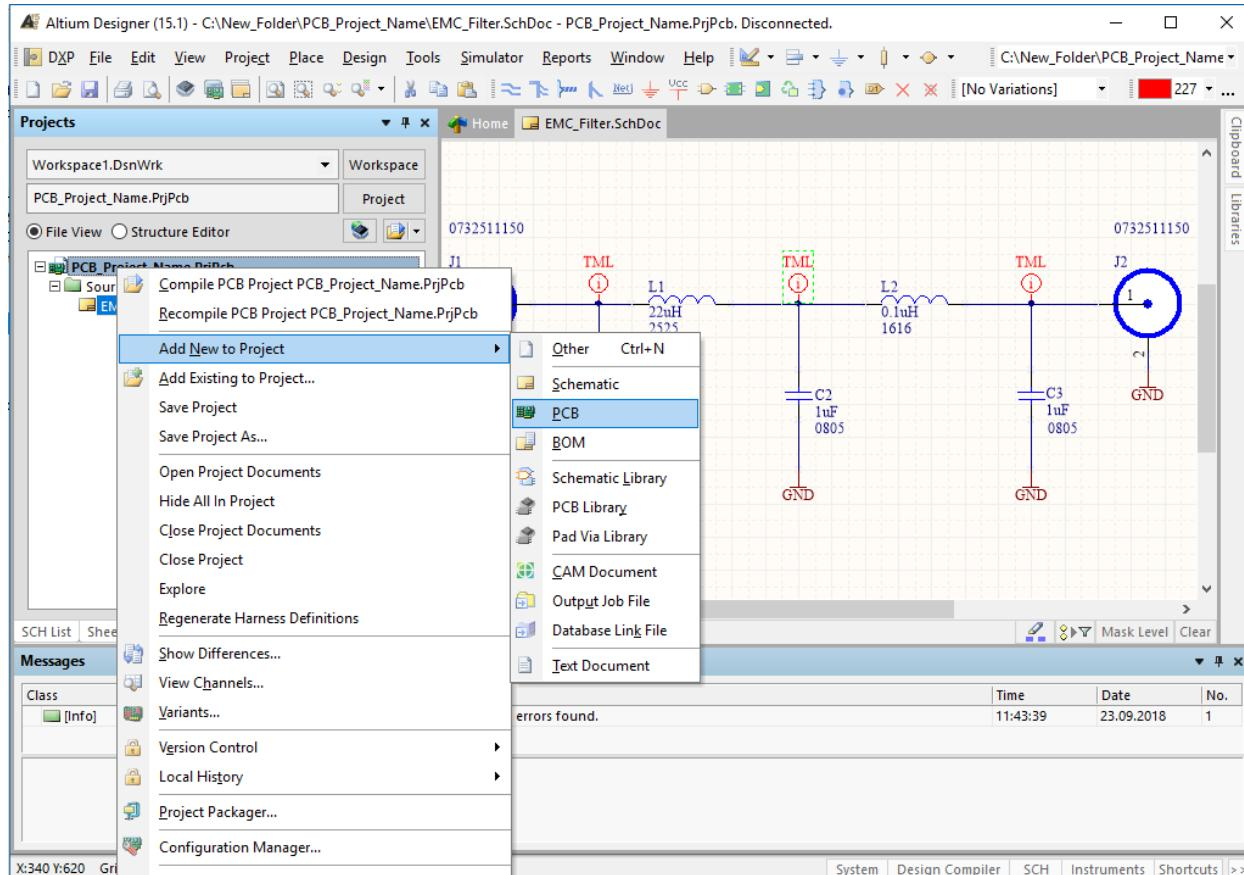

Figure 67: Altium PCB add new PCB document.
40. First, add a new document to your project of type PCB by right click on project and select **Add New to Project...** than **PCB**, as shown in Figure 67.